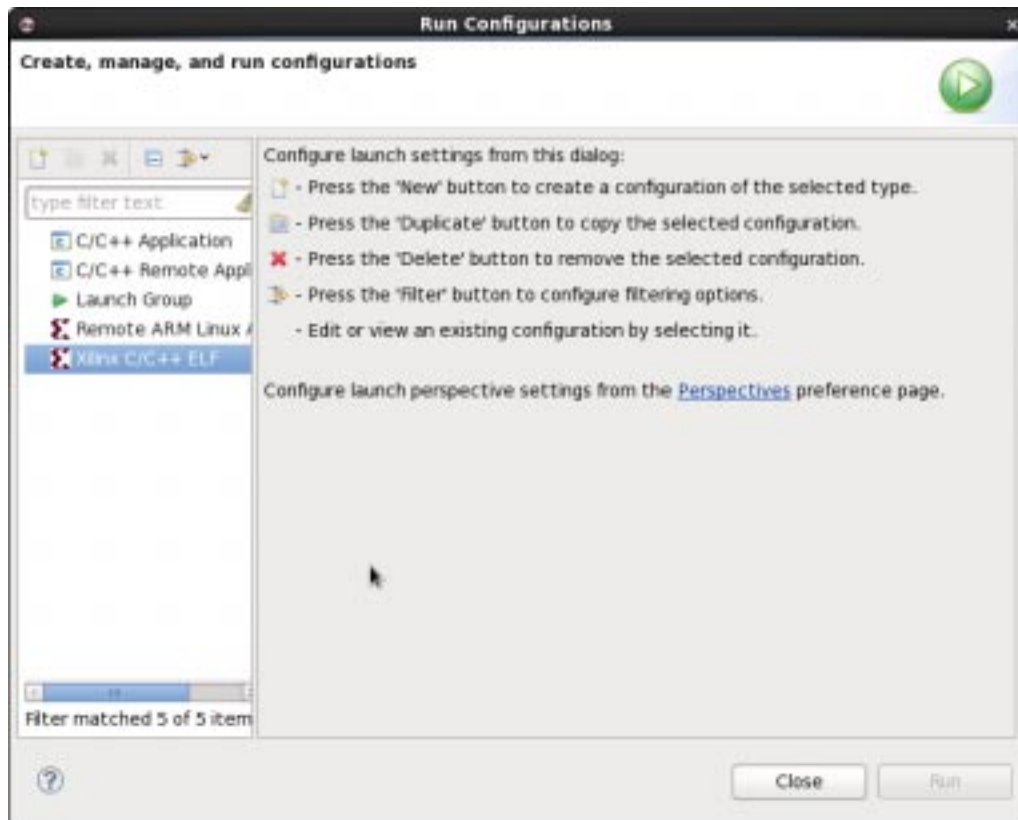

Figure 17: New Run Configuration.
7.7 In the Run Configuration pop-up window (Figure 17) , right click Xilinx C/C++ ELF and choose New (this needs only to be performed once, if you make changes to the program source code and recompile, it is not necessary to repeat this step).